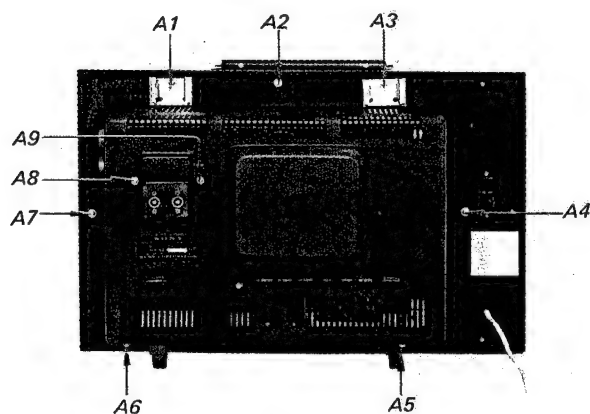

Fig. 2-1
2. Remove the nine screws labeled A1~9 in Fig. 2-1.